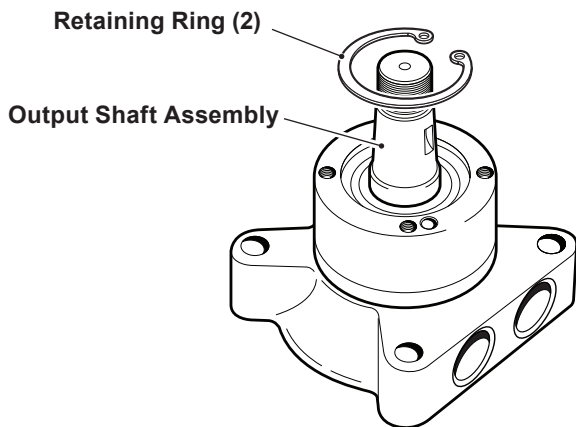

Figure 10, Retaining Ring
1. Mount seal (5), washer (4), and ball bearing (3) onto output shaft (7). See page 11.
2. Install check valves (11), needle bearing (12) and output shaft assembly. See pages 12 - 13.
3. Mount the retaining ring (2). See figure 10.